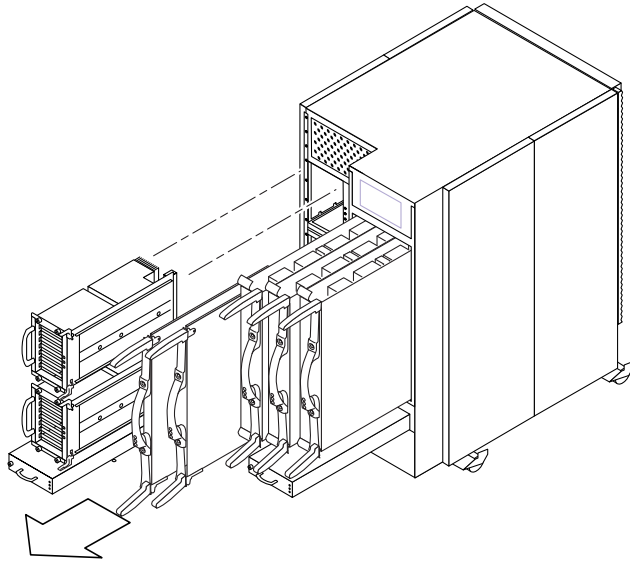

FIGURE 12-19 Removing the Bottom Fan Tray, CPU/Memory Boards, and I/O Assemblies—Sun Fire 4800 System
5. At the back of the system, remove the two bottom fan trays and all boards (FIGURE 12-19).
11. At the back of the system, replace the bottom two fan tray assemblies and boards (FIGURE 12-19).